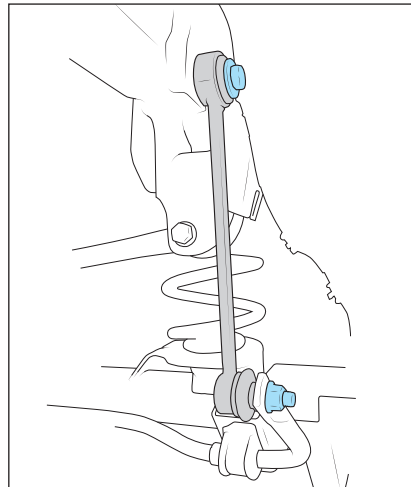

Figure 6
9. Remove sway bar end links and SAVE upper mounting hardware (fig. 6).